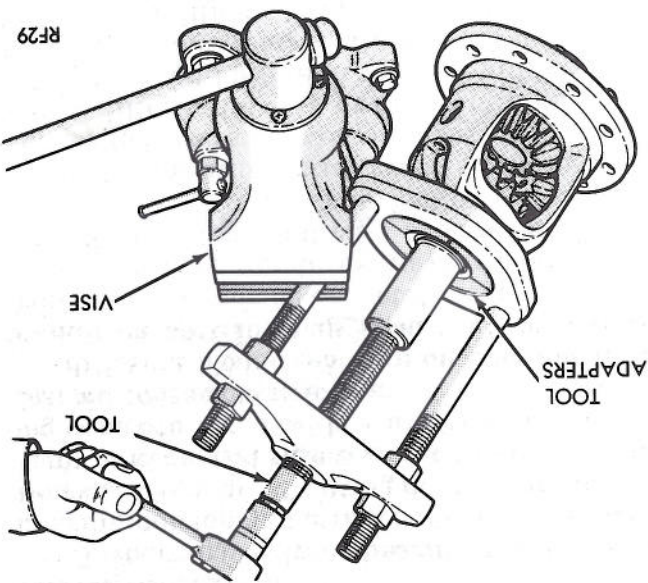
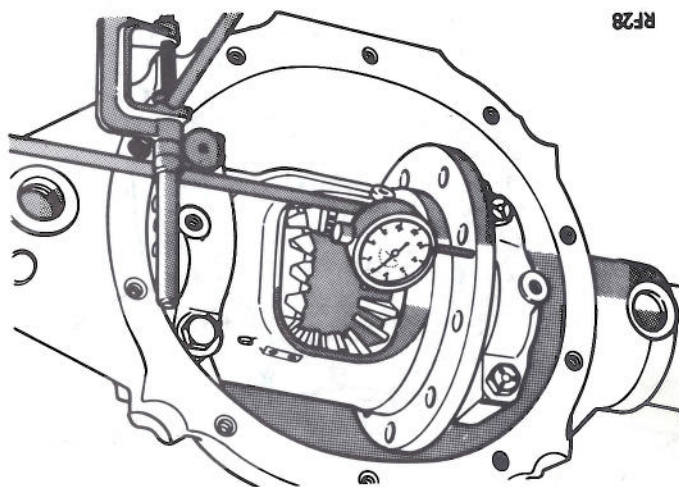

Fig. 17—Removing Differential Bearing Cone
Fig. 16—Checking Drive Gear Mounting Flange Face Runout (Typical)
(25) Attach a dial indicator Tool C-3339 to housing so pointer of indicator squarely contacts drive gear surface of differential case flange between outer edge of flange and drive gear bolt holes.
(26) Rotate differential case several complete revolutions while noting total indicator reading. This reading must not exceed .003 inch runout. If runout is in excess of .003 inch, differential case must be replaced. In a case where the runout does not exceed .003 inch it is often possible to reduce the runout by positioning the drive gear 180 degrees from point of maximum runout when reassembling drive gear on differential case (Fig. 16).
(27) Loosen and remove pedestal cap bolts and remove differential case assembly from carrier and tube assembly.
(28) Remove lock screw and pinion shaft. (29) Rotate differential side gears until differential pinions appear at differential case window opening and remove.
(30) Remove differential side gears and thrust washers. Remove differential case from vise.
(31) Remove differential bearing cone (Fig. 17). On 7-1/4 inch axles use Tool C-293-PA and C-293-44 adapters with SP-3289 plug. On 8-1/4 inch axles use Tool C-293-PA and C-293-48 adapters with SP-3289 plug.